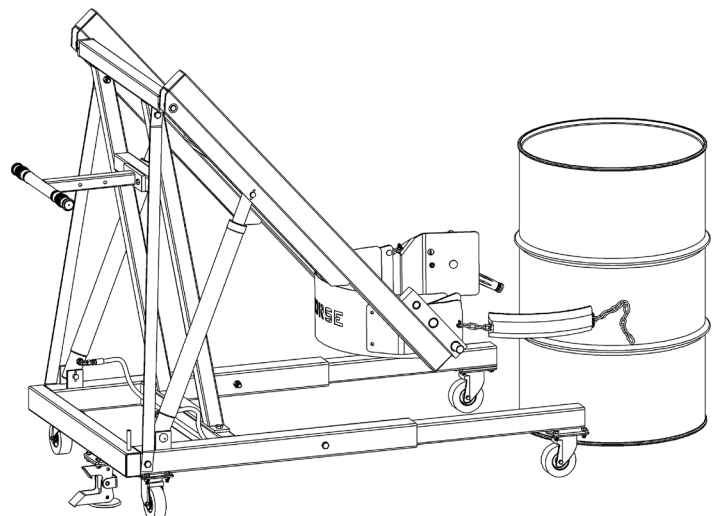

Figure 3.1
- 2.) Using "LIFT" control as described in "Machine Description - Controls", position drum holder assembly with back band at middle of drum (Figure 3.1). With ratchet plate swung open and cinch chain hanging from chain hook, push unit until back band rests firmly against drum. Some adjustment to tilt angle of saddle may be necessary to ensure band fits flush on drum.